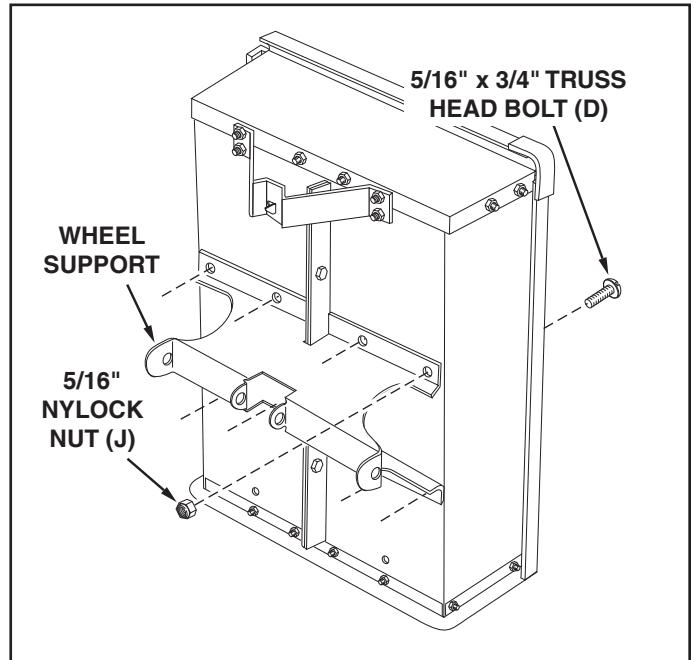

FIGURE 6
13. Assemble the wheel support to the cart using eight 5/16" x 3/4" truss head bolts (D) and 5/16" nylock nuts (J) as shown in figure 6. Heads of bolts go on the inside of the cart. **Tighten**.